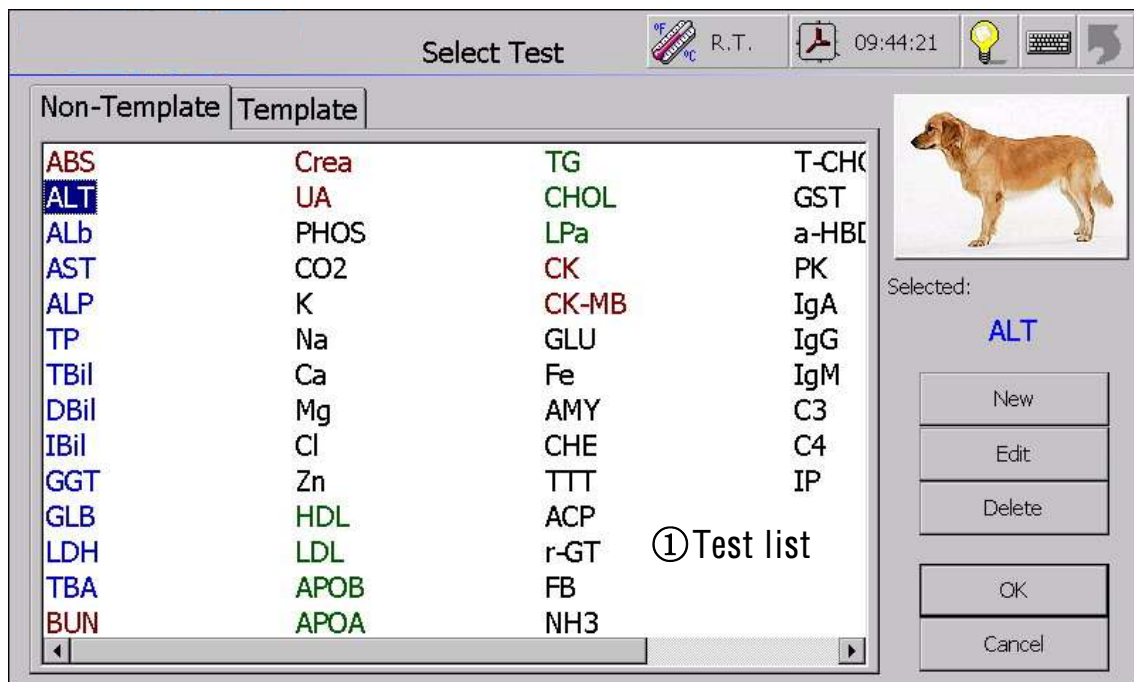

Figure 7-1 Select Test Interface (Non-Template)
In the main interface as figure 4-10, click 【Test】, and enter 【Select animal】, select some animal and click 【OK】, then enter 【Select Test】 interface, click 【Non-Template】, display as the figure 7-1。
- ① Test list displays all current tests. The background color of test would turn blue when click the test (Figure 7-1). For example, the selected test ALT appear blue background color, and ATL is displayed in down side of the window in blue color. Then press **【OK】** to enter **【test】** interface .
Enter **【Select Test】**, testing with non-template, Select a test in the interface as figure 7-1, e.g. 'ALT' . Click **【Edit】** or click **【Para...】** in **【Test】** interface to display the interface as figure 7-3. Click **【Save】** to save after finished parameter setting. (See part 1 of this chapter about Parameter Setting.)
Select ABS in the interface as figure 7-1 to display following interface as figure 7-4.